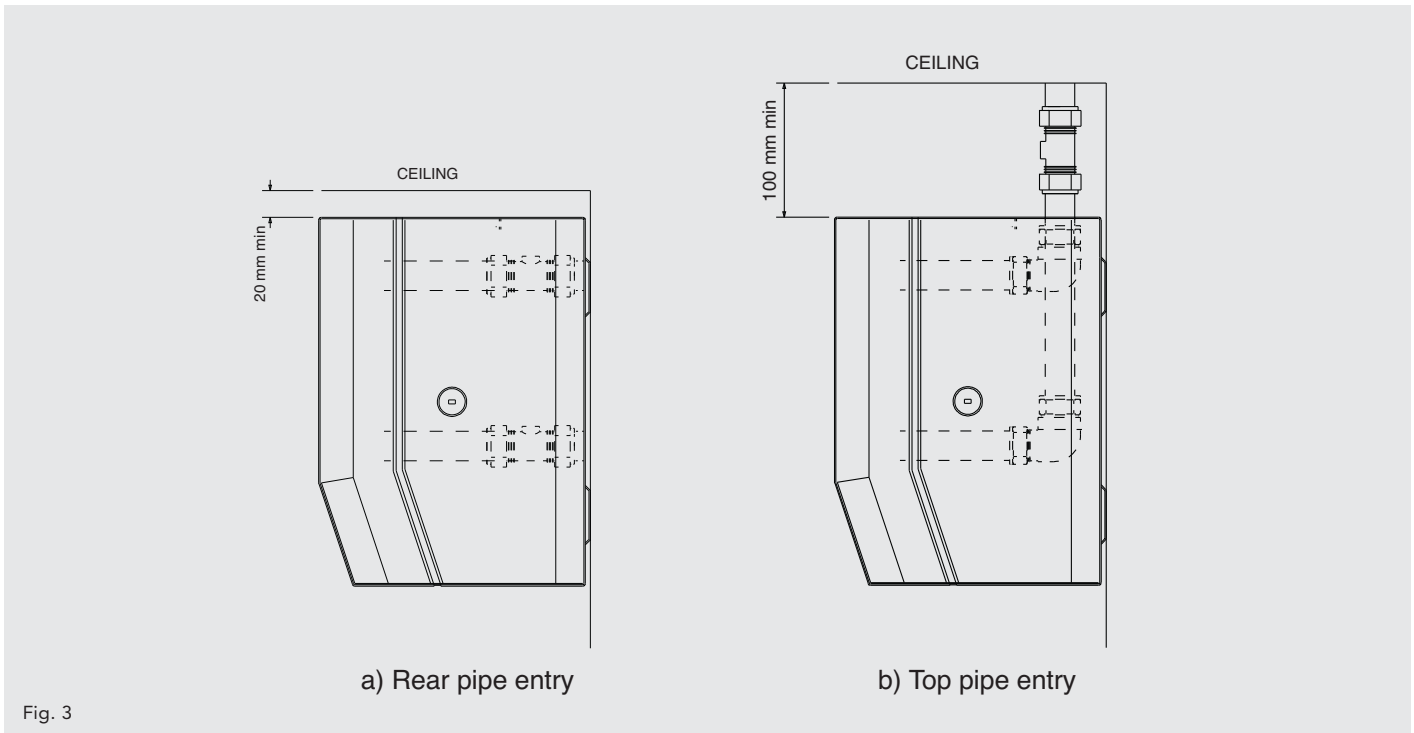

Fig. 3
- Connect unit to system flow and return pipes using the two 22mm isolating valves (see fig. 3 & 4).